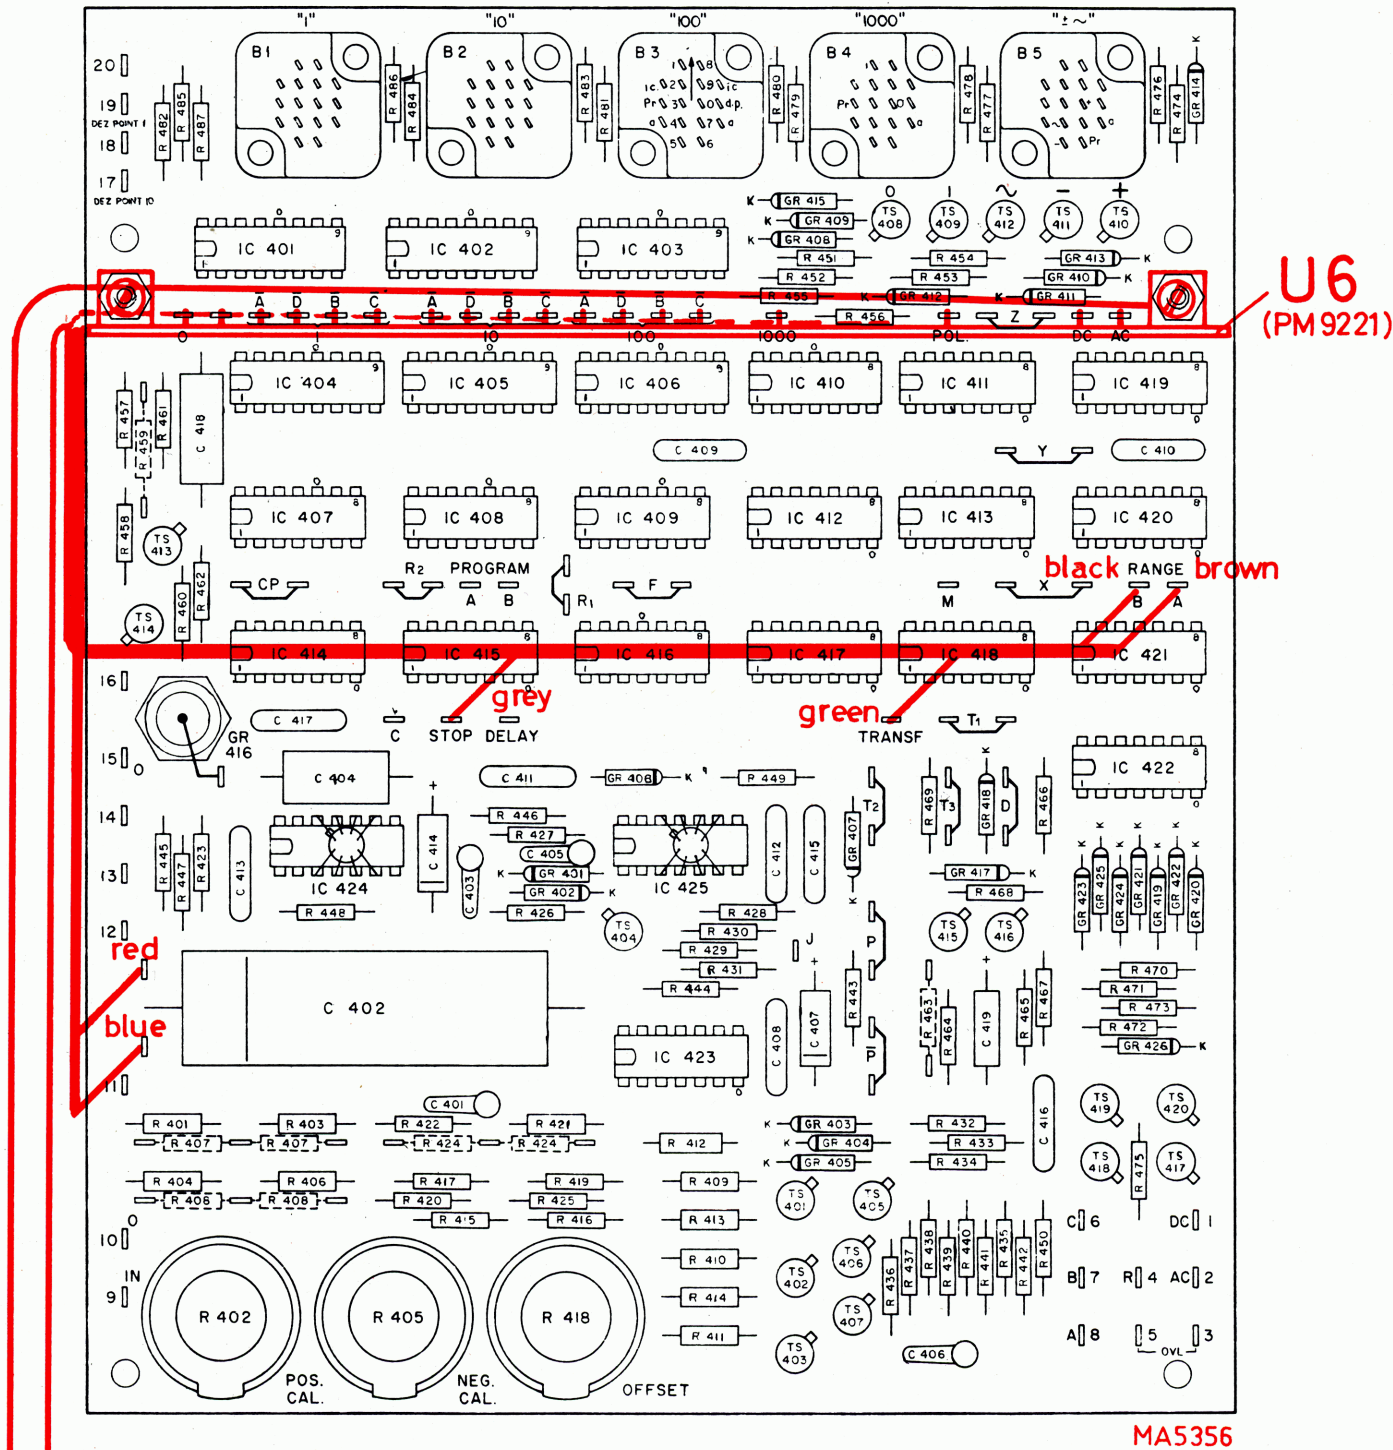

Fig. 60. Digital output unit PM 9221 fitted on digital unit U4
- Fit the additional printed circuit board onto digital unit U4 (fig. 60) and secure the printed circuit board with two M3x5 mm screws.
- Connect the connection cable to the digital printed circuit board by means of the AMP connectors, in accordance with connection diagram Fig. 60.